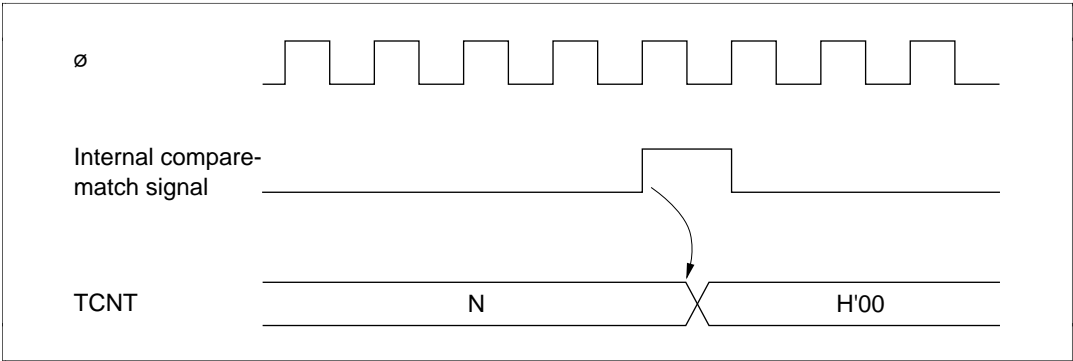

Figure 10-6 Timing of Compare-Match Clear
(3) **Timing of Compare-Match Clear:** Depending on the CCLR1 and CCLR0 bits in the TCR, the timer counter can be cleared when compare-match A or B occurs. Figure 10-6 shows the timing of this operation.